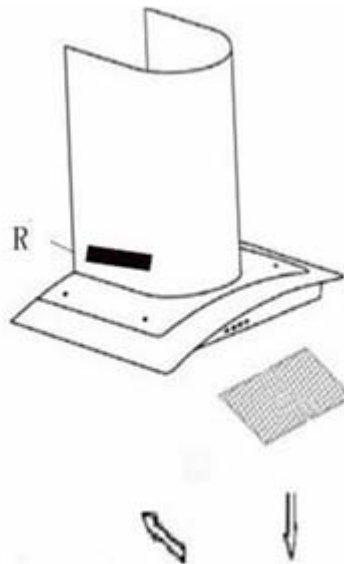

Fig 2
- ✓ Remove the metal anti-grease filters (see Figure 2 below) and find the old bulb located in the light fixture up inside the exposed canopy. Change the halogen bulb using only olive-shaped spares with an G4 coupling, max. 20W.